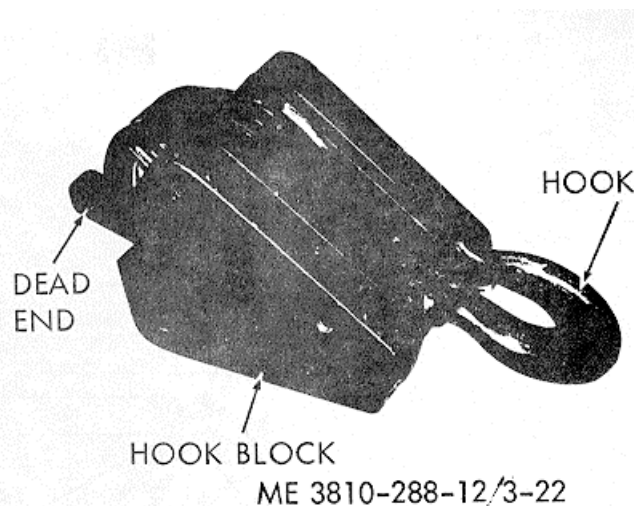

Figure 3-22. Hook block.
(1) Service. The hook block (fig. 3-22) must be kept clean. Keep the hook block sheaves lubricated with proper lubricant in accordance with the lubrication order. The hook block must be inspected by the operator daily, since failure could cause serious damage or injury. The operator must inspect for visible cracks or noticeable in crease in hook throat measurements, and report any evidence of a defect to proper authority.